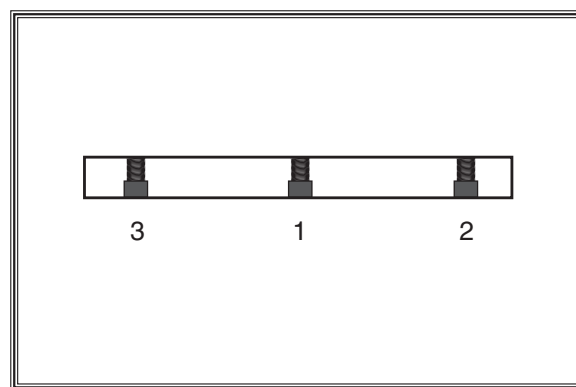

Figure 49. Gib bolt tightening sequence.
8. Rotate the cutterhead to the first knife you started with. Slightly tighten all the gib bolts, starting at the middle and working your way to the ends by alternating left and right (**Figure 49**). Repeat this step on the remaining knives.